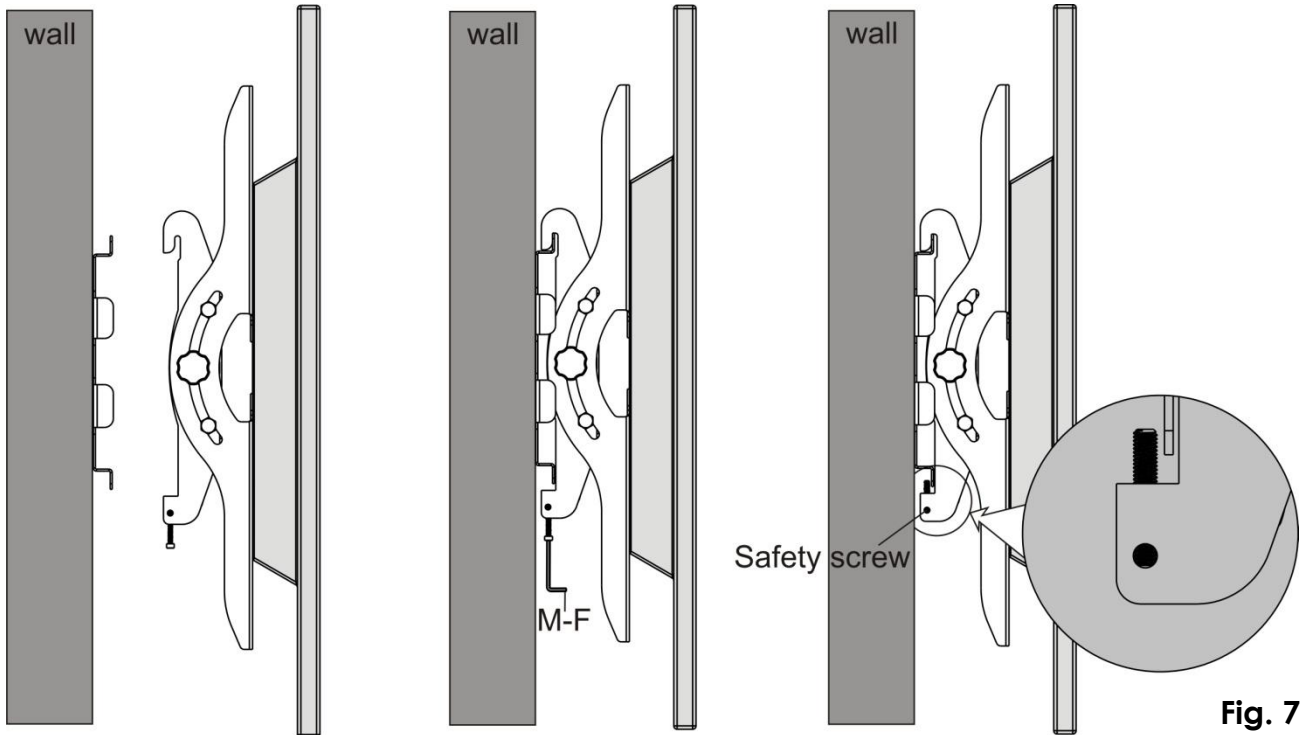

Fig. 7
- After the wall mounting bracket has been safely secured to the wall, carefully lift your TV (with 2 people) and hook the top hooks over the top of the wall plate rail, as shown in Fig. 7.
- Tighten the safety screws on the display brackets with a 5mm allen key (M-F) as shown in Fig. 7.